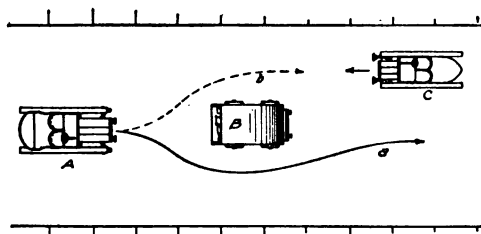

Fig. 31. Case Where Passing on the Wrong Side is Excusable.
**Passing on the Wrong Side.** As a rule, all vehicles should be passed on the proper side according to the rules of the road, but there are occasions when it is unsafe to pass in this manner and the autoist has either to pass on the wrong side or to wait until conditions are such as will allow him to pass according to rule. Such an occasion often presents itself in overtaking a heavily loaded vehicle or one which has been disabled and has not been withdrawn to the side of the road. Once a loaded van or truck leaves the crown of the road, it has some difficulty in getting back again, especially if drawn by horses, and the driver will generally refuse to turn aside except for other equally heavy vehicles. As the autoist is conducting a vehicle of superior speed and mobility to that of the truck, the latter can be considered as a stationary object for the time being and passed on the wrong side, provided the road is clear. The situation is shown in the sketch, Fig. 31, where *B* is a truck and *A* is a car about to pass the truck. The road being clear, car *A* can take the course *a*, passing the truck on the wrong side. Should course *b* be taken, a collision is likely to occur between the car and another car *C* proceeding in the opposite direction, unless great caution is exercised by both drivers. If there is any doubt as to the road not being clear, the autoist should take no chances but wait until the way on the left of the truck, course *b*, is clear and then pass on the proper side. Situations like the above occur from time to time on the road and the autoist should use his judgment in coping with them. Legally it is not justifiable to depart from the rules of the road except to avoid accidents, and this should be borne in mind at all times.